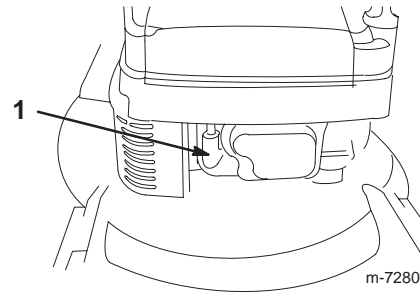

Figure 9
- Connect the wire to the spark plug (Fig. 9).